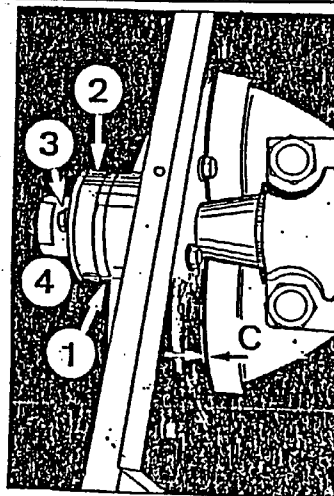

Fig. 3
5. Insert new rubber spring into the rock. When doing so, make sure that the thicker rubber layer is positioned towards the inside. (Fig. 3)
C (Fig. 3) = approx. 2 mm